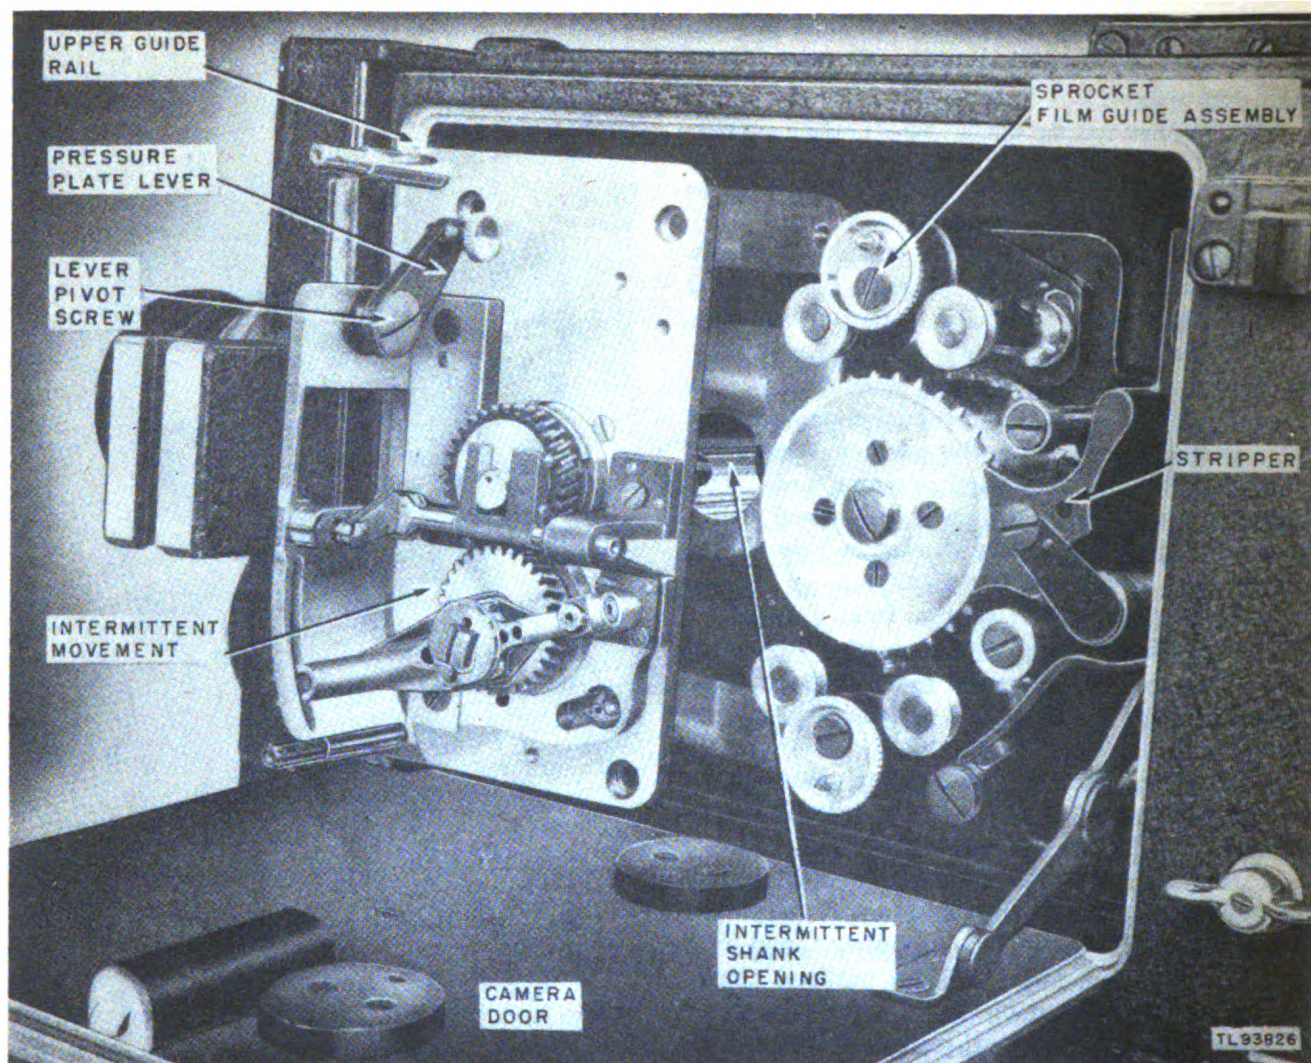

Figure 119. Intermittent movement partially removed.
57. Replacing Intermittent Movement (fig. 119)
62. Replacing Pressure Plate Lever (fig. 119)